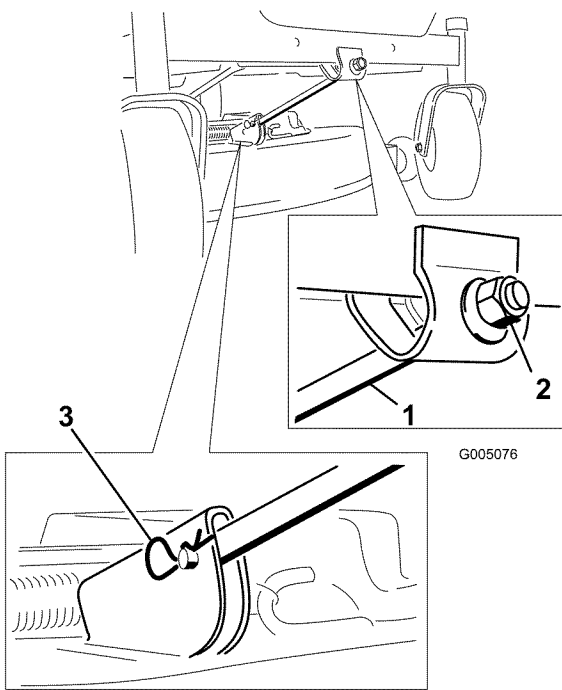

Figure 54
4. Remove the hairpin cotter and clevis pin from the front support rod (Figure 54). Carefully lower the front of the mower deck to the ground.
6. Attach the front support rod to the mower deck with the clevis pin and hairpin cotter (Figure 54).